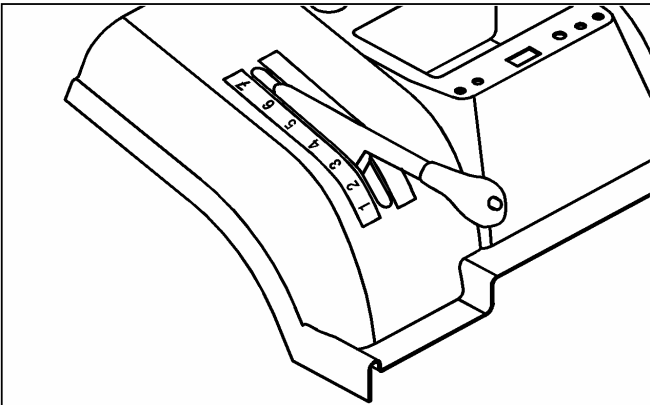

Fig. 20
CUTTING HEIGHT ADJUSTMENT (Fig. 20)
2. Mower height adjustment in highest position (Fig. 20).